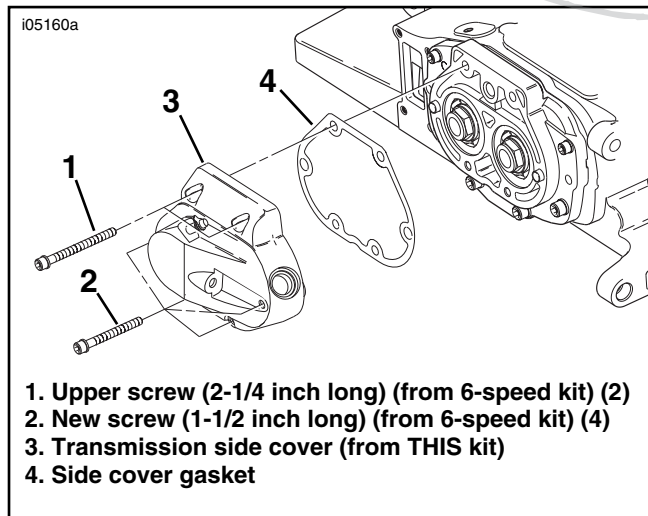
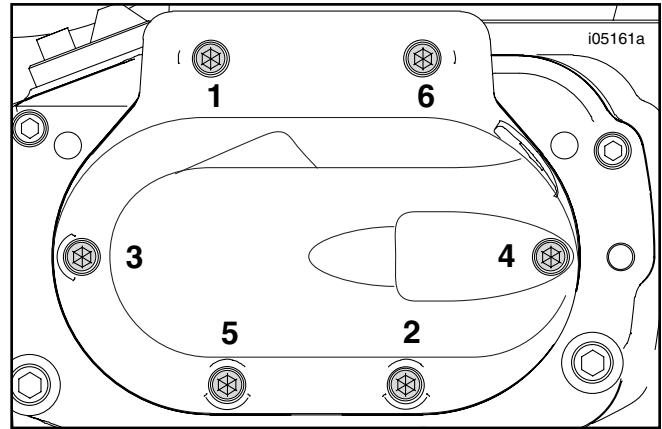

Figure 2. New Transmission Side Cover Installation
Figure 3. Torque Sequence, Transmission Side Cover
2. Refer to Figure 2. Place the new cover gasket (4) over the hollow locating pins (5) on the transmission side door (bearing housing). Line up the new transmission side cover assembly (3, which includes the secondary actuator [slave] cylinder and bleeder screw) over the gasket.
3. Loosely install the two 2-1/4 in. (57 mm) long screws (1) into the top two holes in the new cover. Loosely install four 1-1/2 in. (38 mm) long screws (2) into the remaining four holes.
4. See Figure 3. Tighten the side cover screws, in the sequence shown, to 120-144 **in-lbs** (14-16 Nm).